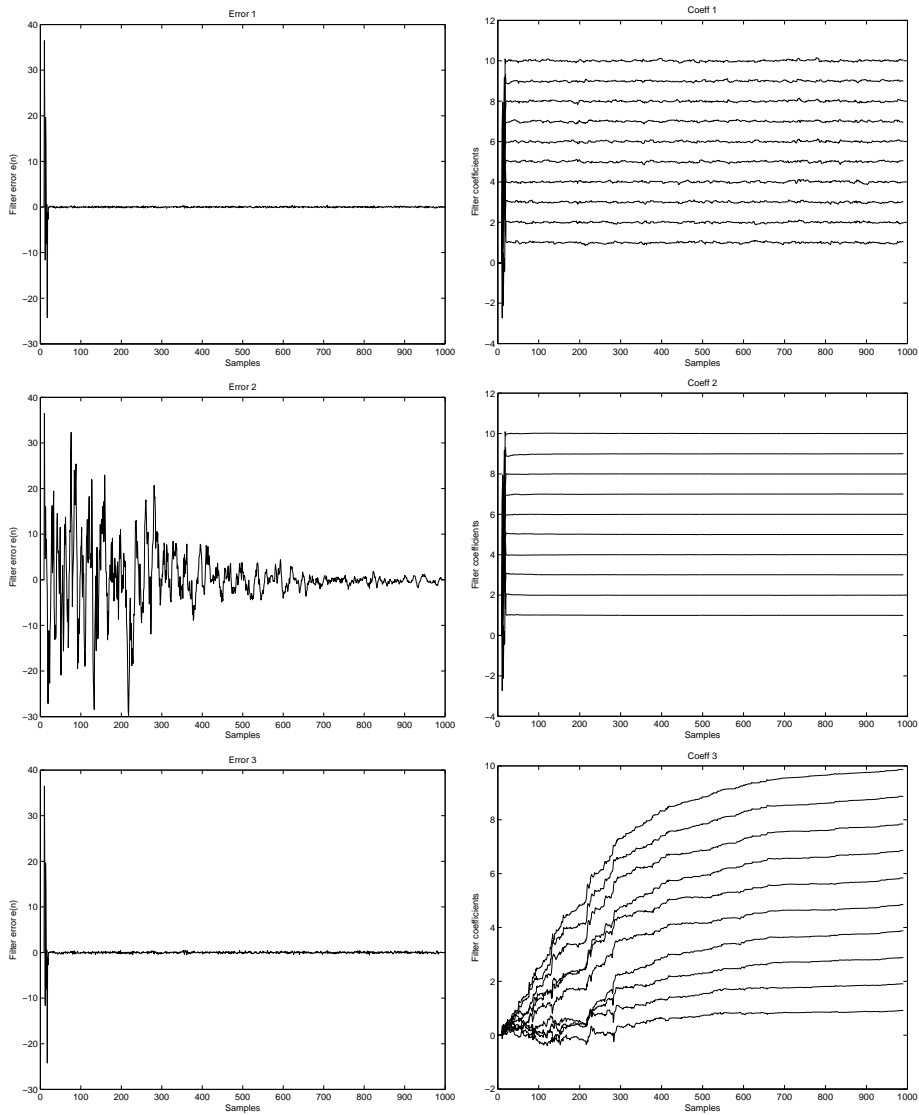

Figure 1: Graphs for adaptive filtering problem. Left column error. Right column coefficients.
1. In Figure 1 you find 6 graphs. The 3 left graphs are the time evolution of the filtering error signal and the 3 right graphs correspond to the filter coefficient evolution over time. Below you find the filter updating equations for three different adaptive filtering algorithms. Which of the error signal graphs and the filter coefficient graphs correspond to which algorithm respectively? Motivate your choices carefully. What are the names of each of the algorithms. (10p)